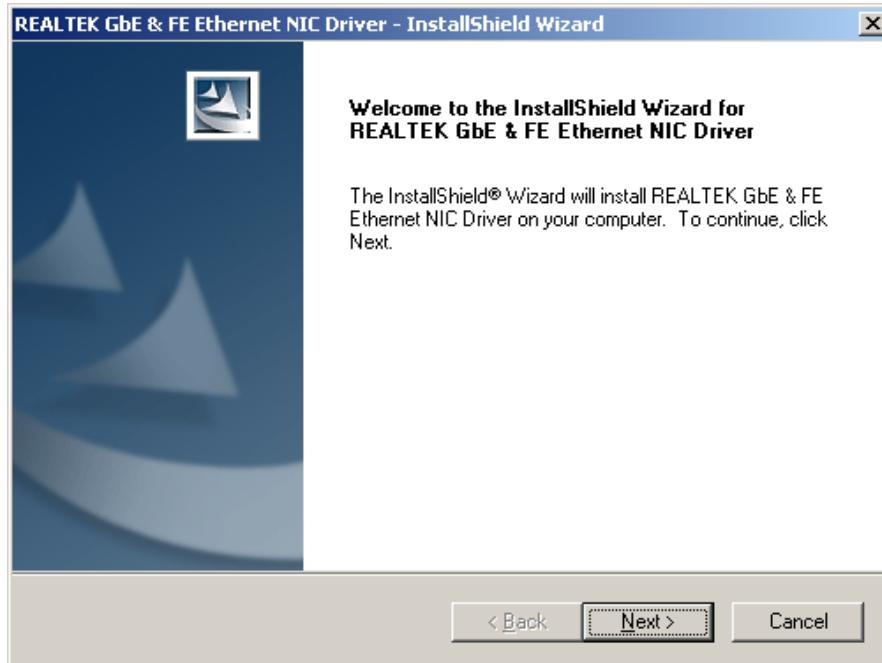

Figure 6-8: Realtek LAN Driver Welcome
- Step 2:** The **InstallShield Wizard Welcome** screen appears (Figure 6-8).